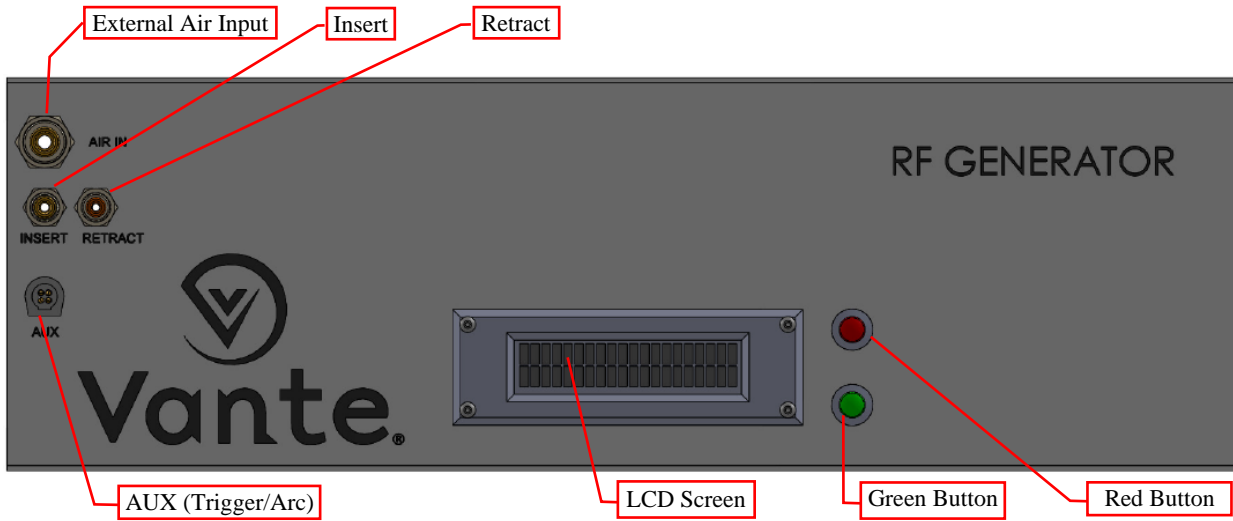

Figure 2.1 3800 RF generator, front view
- Connect the external airline, to the AIR IN port on the generator. See figure 2.1.
- Connect the air lines from the handheld sealer to the INSERT and RETRACT ports on the generator. See Figure 2.1
2.3.3. Connect the 4-pin plastic connector on the control cable assembly from the sealing head to the RF generator's AUX port. See Figure 2.1.